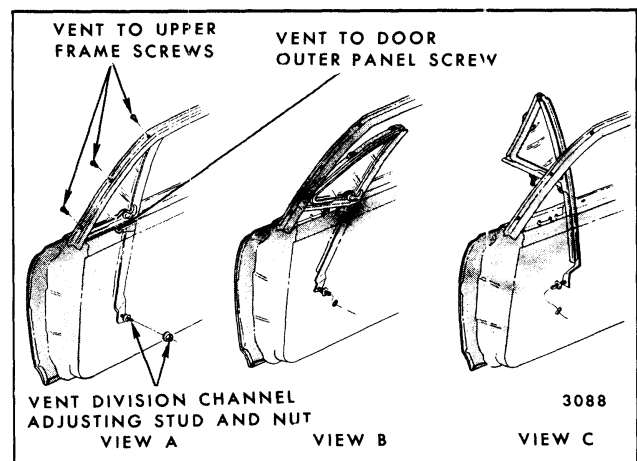

Fig. 5-75-Front Door Ventilator Removal - "X-69" Styles with Ventilator Option
3. Lower door window and remove ventilator division channel lower adjusting stud nut and ventilator to door outer panel attaching screw (View "A" in Fig. 5-75).
4. Remove ventilator to door upper frame attaching screws (View "A" in Fig. 5-75).
5. Lift ventilator rearward and upward until lower forward corner of assembly is free of door upper frame (View "B" in Fig. 5-75).
6. Rotate ventilator assembly in an outboard movement and remove unit outboard of door upper frame (View "C" in Fig. 5-75).